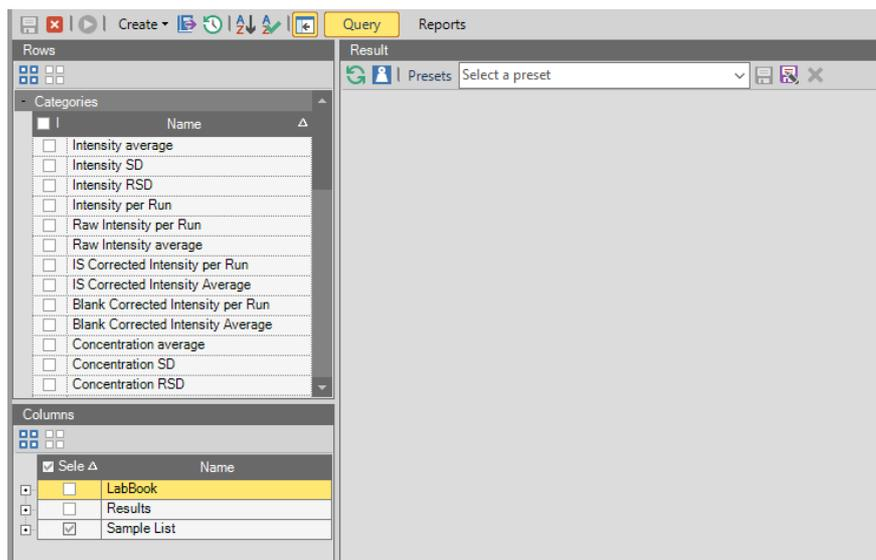

Figure 6-54. Initial Query view of a completed LabBook
3. On the toolbar of the LabBook, open the **Query** view to open the screen as shown in Figure 6-54.